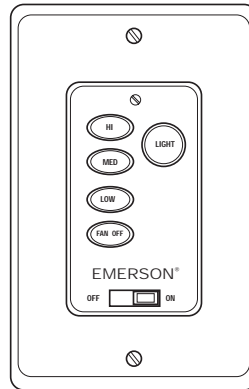

Figure 22
Your Fan/Light Wall Control (Figure 22) has full control of your fan and light. However, airflow direction is controlled by a slide switch on the switch housing.
- 2. To set the desired fan speed, press the HI, MED, or LOW buttons to operate your fan on high, medium, or low speed (Figure 22).